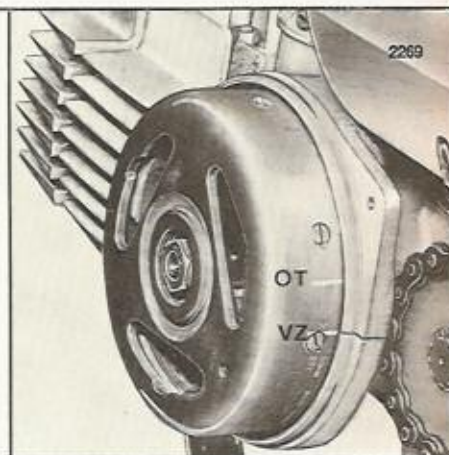

Fig. 12
The position of the plug differs from all other models and the timing must therefore be quoted in crankshaft degrees before top dead centre. The flywheel has a mark „top dead centre“ (figure 12, OT) from which the timing (VZ) can be measured with a flexible ruler. At top dead centre, the mark on the flywheel corresponds with the joint of the housing (figure 12). Timing values are listed in operating instructions, type sheets etc. Values are advance timing in degrees before top dead centre. For instance, the Maxi25 mph (40 km/h) model has 16° to 18° advance timing. Adjust and check as follows.